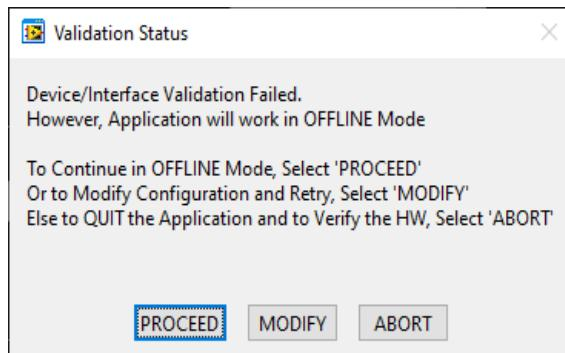

Figure 22: Validation status
2. If the values do not match, SW displays the validation Status as **FAIL** and alerts the user with a message as seen in Figure 22.